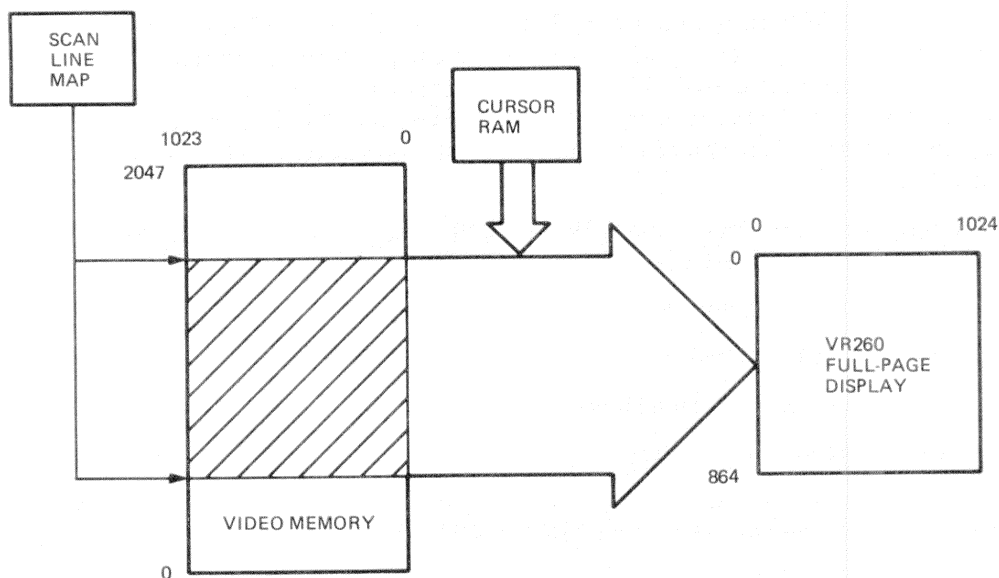

Figure C-9 VR260 Monitor Display Mapping
The video memory is a 256-Kbyte dual-ported MOS RAM array. It is a *single-plane* (or *1-plane*) bit-mapped memory; that is, the value (on or off) of each pixel on the screen corresponds to the value (1 or 0) of only one bit in memory. Each pixel is defined by its X,Y position in the memory, where Y represents a scan line 1 pixel (bit) high and 1024 pixels (bits) long (X). There are 2048 scan lines in video memory. (Figure C-9)
C.1.5.1 Scan Line Map – The scan line map comprises two $2\text{ K} \times 8$ static RAMs (refresh is not required). It is configured as a $1\text{ K} \times 11$ RAM; that is, the MSB (most significant bit) of the address is disabled, and the five MSBs of the output are not used. It translates the 10 MSBs of the CRTC start address output (video refresh address) into an 11-bit video memory physical address, mapping any 864 of the 2048 video memory scan lines to the VR260 monitor (Figure C-9). If the VCB01 is used in half-page mode, the scan line map maps only the lowest 800 pixels of any 480 scan lines to a half-page monitor.